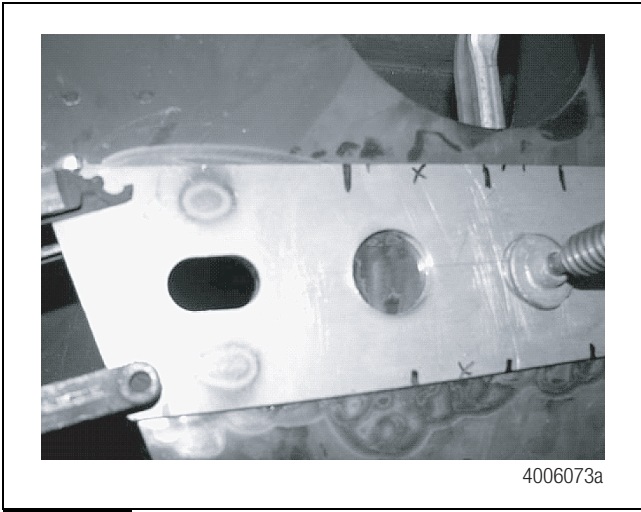
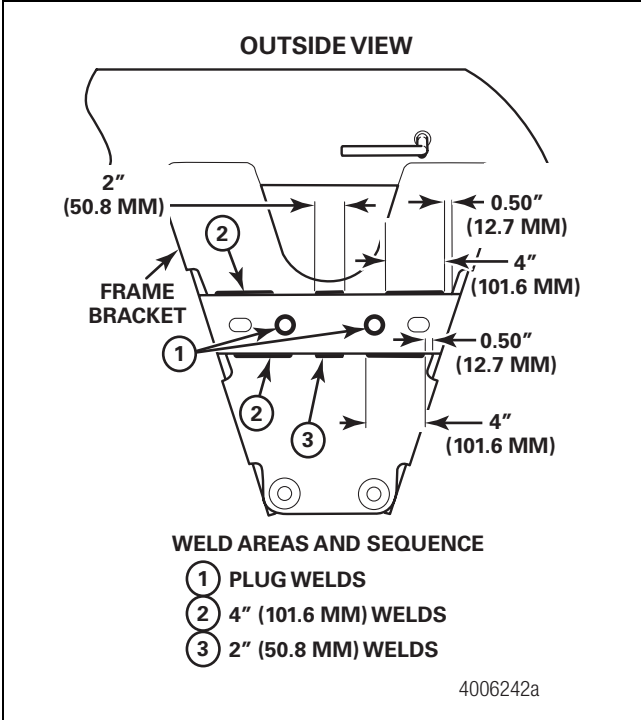

Figure 19
Figure 20
9. After clamping firmly, weld the plug weld holes. Mark the edge welds. Start 0.5-inch from any corner and weld four-inches. Repeat at all four corners. Weld a two-inch bead in the center, top and bottom. Remove the clamps after it has cooled. Figure 19 and Figure 20.